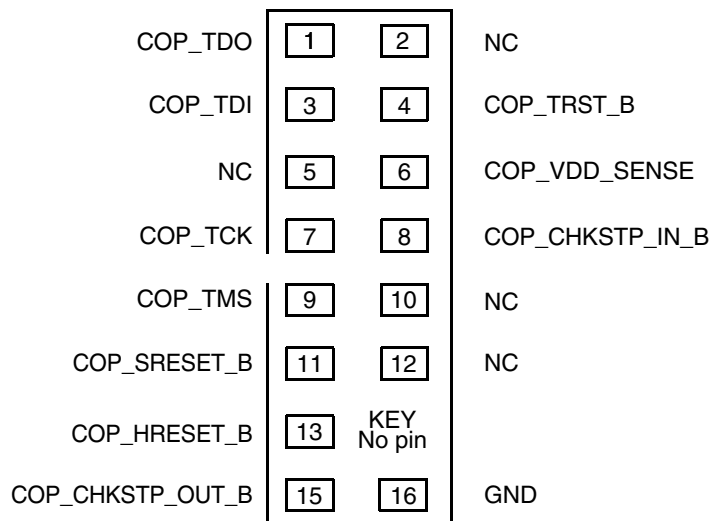
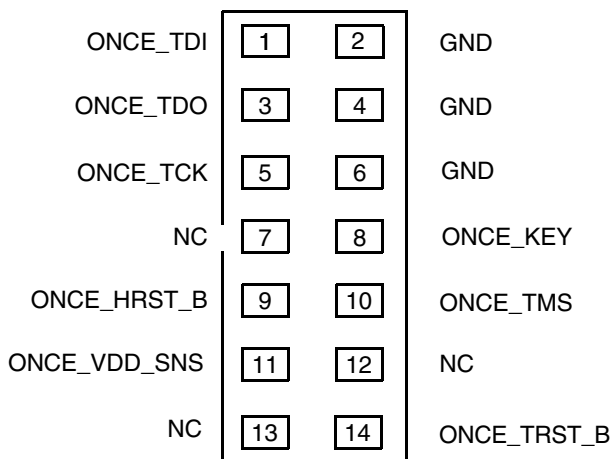

Figure 59. COP Connector Physical Pinout
Figure 60. ONCE Connector Physical Pinout
Correct operation of the JTAG interface requires configuration of a group of system control pins as demonstrated in Figure 59. Care must be taken to ensure that these pins are maintained at a valid deasserted state under normal operating conditions, because most have asynchronous behavior, and spurious assertion gives unpredictable results.
The COP function of the processor allow a remote computer system (typically, a PC with dedicated hardware and debugging software) to access and control the internal operations of the processor. The arrangement shown in Figure 59 and Figure 60 allows the COP/ONCE port to independently assert HRESET_B or TRST, while ensuring that the target can drive HRESET_B as well.
The COP interface has a standard header for connection to the target system. The 16-pin PA COP connector is shown in Figure 59.
The ONCE interface also has a standard header for connection to the target system. The 14-pin DSP ONCE connector is shown in Figure 60.
- TRST_B should be tied to HRESET_B through a 0 k Ω isolation resistor so that it is asserted when the system reset signal (HRESET_B) is asserted, ensuring that the JTAG scan chain is initialized during the power-on reset flow. Freescale recommends that the COP header be designed into the system as shown in Figure 59. If this is not possible,